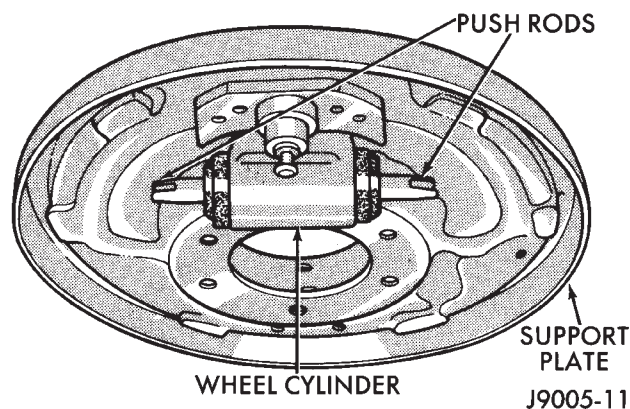

Fig. 4 Wheel Cylinder Mounting
(1) Start brakeline fitting in wheel cylinder by hand. Install fitting to depth of 2-3 threads. Be sure fitting is not cross threaded.
(2) Position wheel cylinder on backing plate (Fig. 4).
(3) Install and tighten cylinder mounting bolts to 10 N•m (90 in. lbs.) torque.